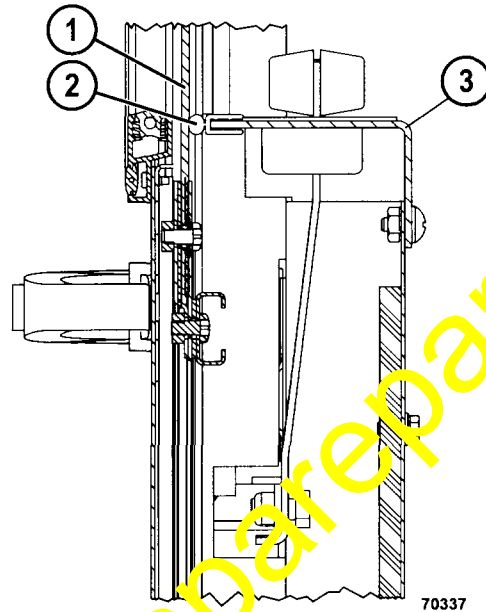

Figure 2. End View Of Door Panel
2. Remove the inside seal (2, Figure 2) from the armrest portion of the door structure to allow enough clearance between the door glass (1, Figure 2) and the armrest (3, Figure 2). **NOTE: REMOVING THE INSIDE SEAL MAY ALLOW DIRT AND MOISTURE TO ENTER THE CAB DURING OPERATION BUT ONLY FROM INSIDE THE CAB UNLESS THE WINDOW IS DOWN.**